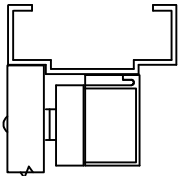

FIG. 1A
1. Inspect the frame header to determine if an angle bracket or filler plate is required. See Figure 1A, 1B, 1C.